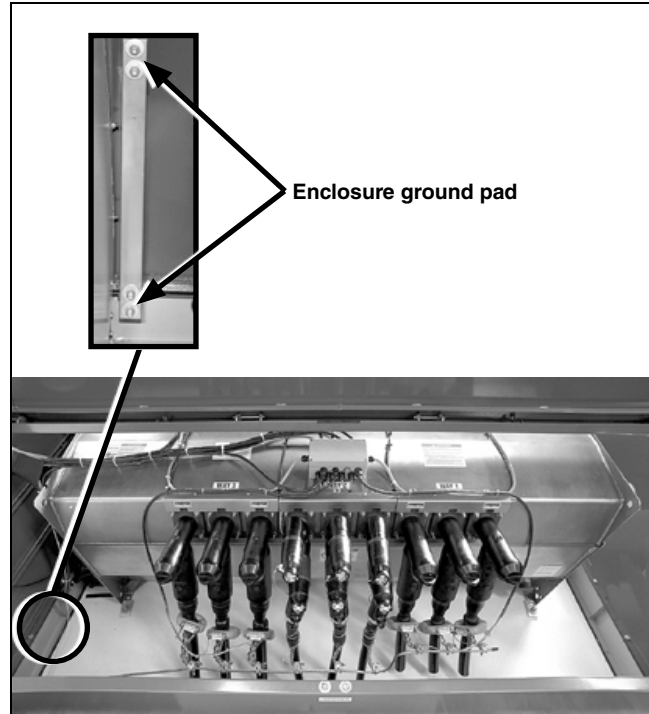
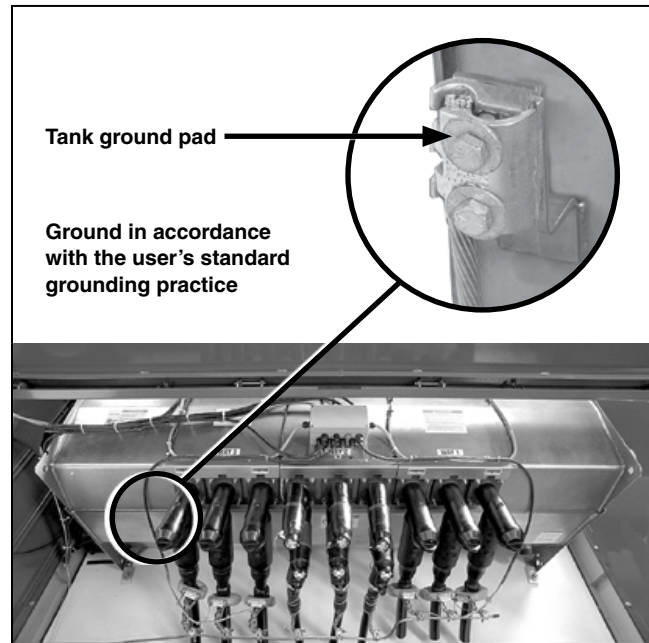
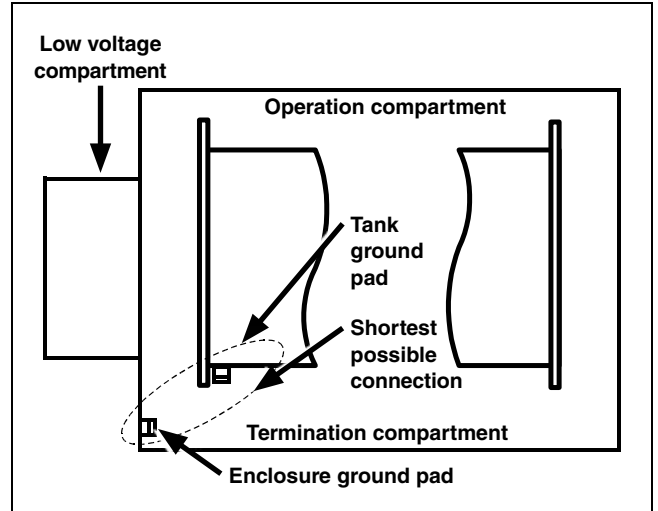

Figure 17. The pad-mounted enclosure ground pad orientation.
Figure 18. Use of the pad-mounted enclosure ground pad.
Figure 19. The tank and enclosure ground pads.
- STEP 2.** Connect the ground pad inside the enclosure and the ground pad inside the enclosure to the system ground facility in accordance with the user's standard grounding practice. Connect with the shortest possible connection. See Figure 17, Figure 18, and Figure 19 on page 17.